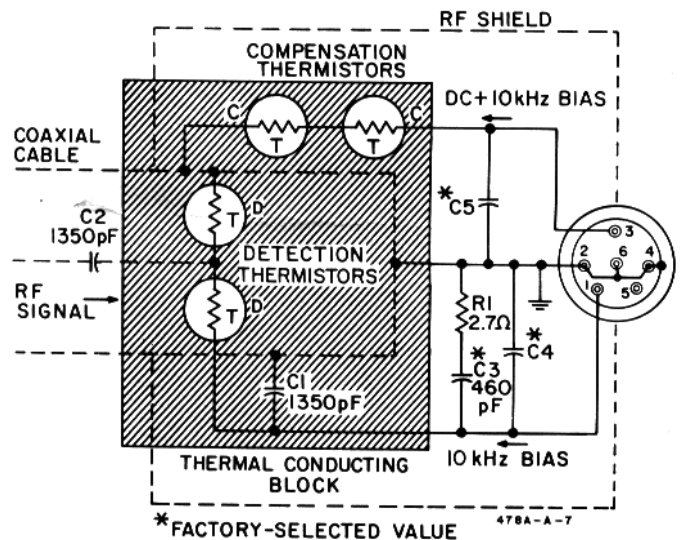

Figure 5. Schematic Diagram Model 478A Thermistor Mount
28. Note that some 10-kHz bias signal is coupled into the RF transmission system by C3 (Figure 5). If the RF source output impedance at 10 kHz is 15K ohms or greater, 10-kHz bias voltage is typically 1.3 V RMS and could equal 1.5 V RMS. For an RF source output impedance of 50 ohms at 10 kHz, bias signal voltage is typically 5 mV RMS.
45. Two matched series thermistor pairs are mounted on a common thermal conducting block, represented by the shaded rectangle in Figure 5. One pair, marked D for detection, is mounted between the end of a coaxial cable and a cylindrical cavity. These thermistors are exposed to incoming RF power which heats them, lowering their resistances. The other pair, marked C for compensation and situated immediately outside the
48. Under normal operation, the total power supplied to heat thermistor pair D (see Figure 5) consists of: 1) RF signal, 2) 10-kHz bias, and 3) heat from the environment. The total power supplied to heat thermistor pair C consists of: 1) dc bias, 2) an equal amount of 10-kHz bias, and 3) heat from the same environment. As D and C are matched thermally, the total amounts of heat applied to reduce their series resistances equally must be equal.